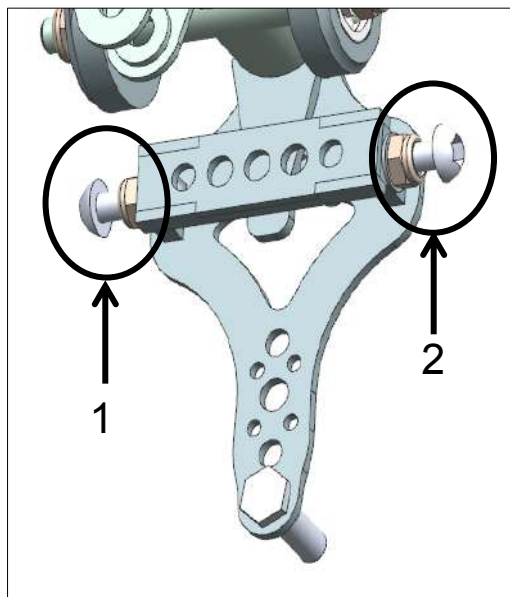

Figure 27-4: Aileron stop location
3. The aileron stops are shown in Figure 27-4. Adjust both stops until the aileron deflections in both flap settings at full left and right stick conforms to the tolerances given in Table 27-1.